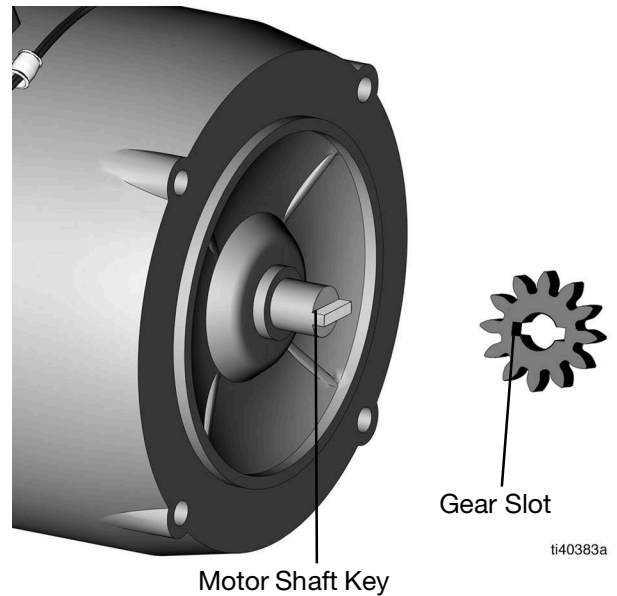

**FIG. 12**
3. Position the adapter plate on the pump housing so that the notches point toward the pump inlet (FIG. 12 and FIG. 13).